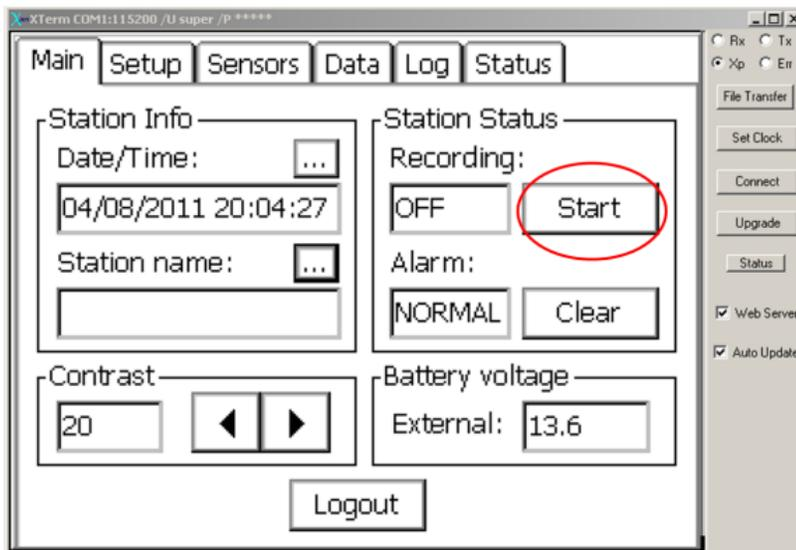

Figure 3-9. Click the Start button.
- In Xterm, return to the **Main** tab under the **Setup Access**. Click the **Start** button (fig. 3-9); the hour glass icon will appear. It may take a minute or two for recording to start.